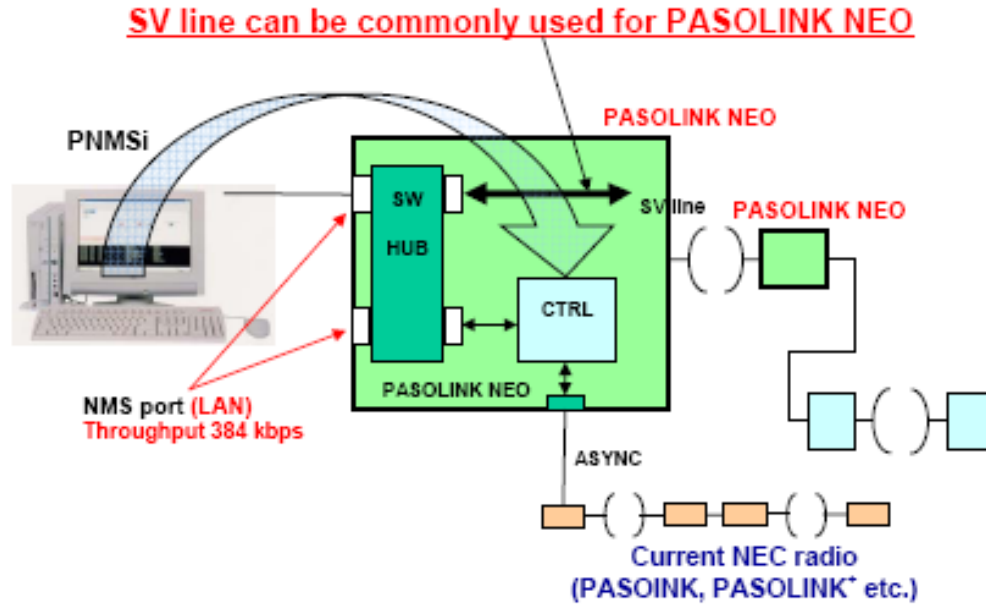

Figure 4 SV Line Commonality (SV LAN Interface)
- SV Line commonality: (Refer to Fig. 4)